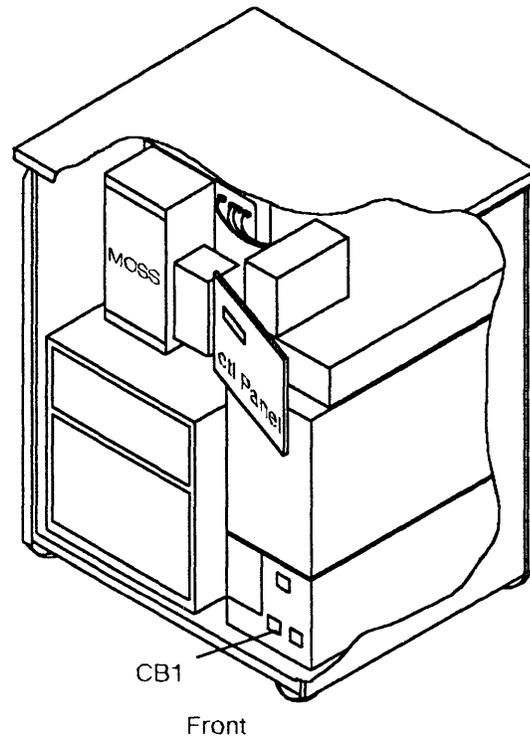
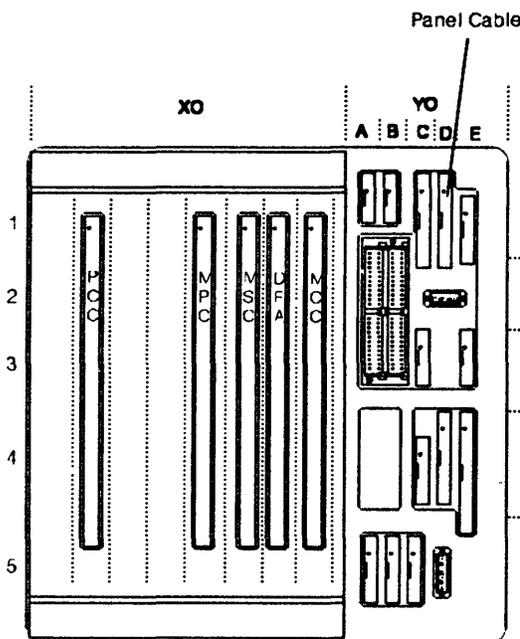

Figure 4-58. Panel, MOSS and CB1 Locations
Figure 4-60. Panel Cable Location on MOSS Board
4. **Switch CB1 OFF.** Refer to Figure 4-58.
5. Locate the control panel and the MOSS. Refer to Figure 4-58.
8. Refer to Figure 4-58 and to Figure 4-60 on page 4-45 then remove from the MOSS board the cable going to the control panel (Y0-D1).